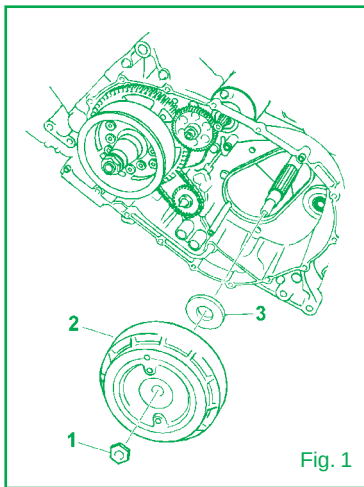

Fig. 1
6. Remove the clutch unit nut (**Tightening torque: 65 Nm**) (1).
7. Remove the clutch unit (2) making sure not to damage the washer (3) (Fig.1).